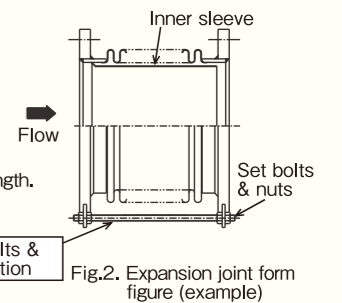

Fig.2. Expansion joint form figure (example)
- ① Check the installation place by name plate or tag plate indicated the machinery number or size.
- ② Compare the fitting form and dimensions with drawing.
- ③ In case of expansion joint with inner sleeve, the direction of a flow of fluid is decided. Install according to the direction of flow given in the drawing (Refer to Fig.2).
- ④ Do not loosen the set-bolts until completing installation, because set-bolts are object for fixing overall length. After installation be sure to remove the set-bolts (Refer to Fig.2).
- ⑤ Nut of the tie-rods are already adjusted at the time of delivery. Do not loosen nuts of the tie-rods. (Given the drawing)
- ⑥ Don't install the tube with displacement beyond design value and don't twist.